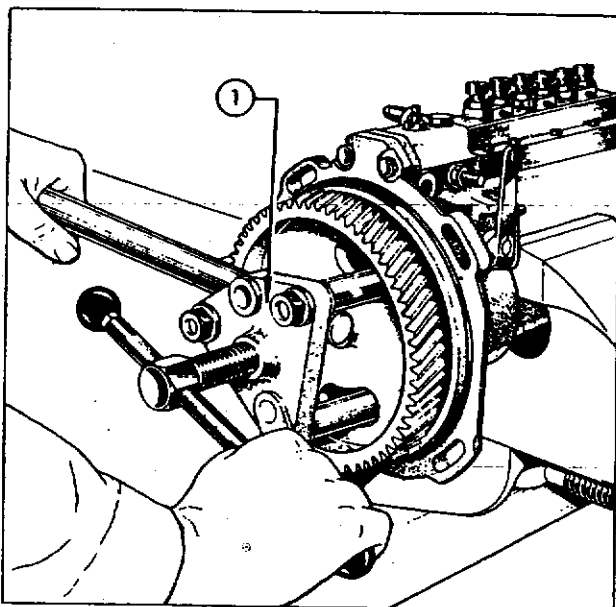

Fig. 18
1. Remove the timing gear. Unscrew the retaining nut, if not already removed, holding the gear with wrench Tool No. C.9078. Pull the gear off the taper, using puller Tool No. C.9081 (see Fig. 18). Extract the key.